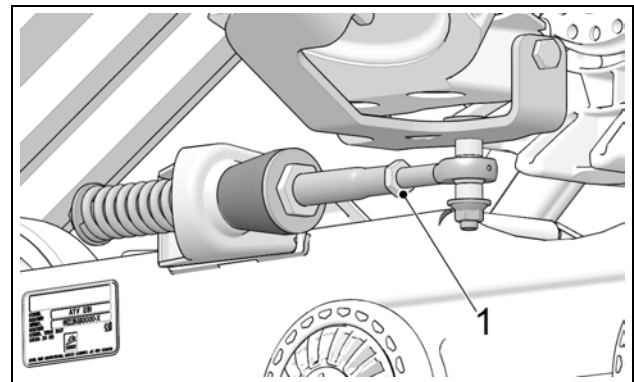

Figure 16
- Re-tighten jam nut (1) to 40 N·m [30 lb-ft] of torque when adjustment is complete. Figure 16.